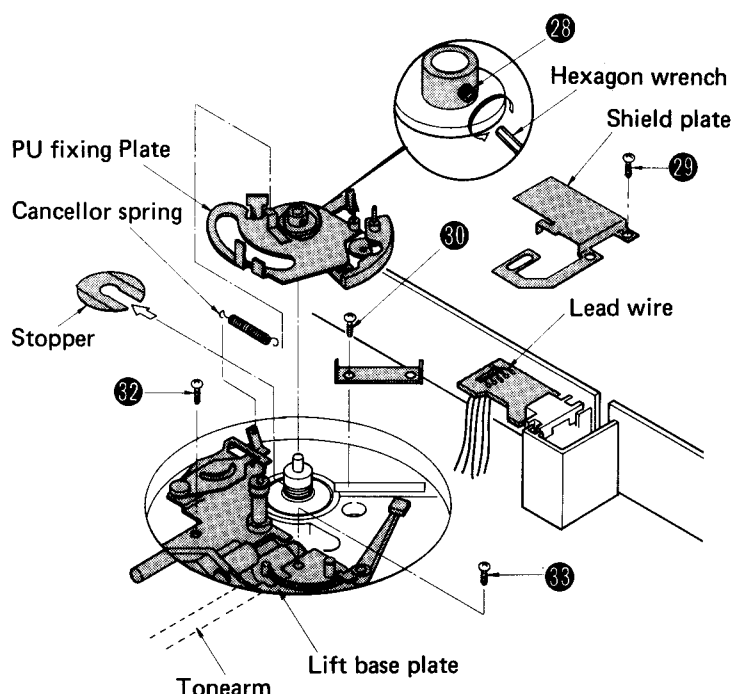

Fig. 5
2. Remove the canceller spring from the PU fixing plate, loosen the PU fixing plate set screw 28 with a hexagon wrench, then the plate is disassembled when lifted upward. (See Fig. 5)
3. Remove the shield plate fixing screw 29 and disconnect the soldered five lead wires from the tonearm. (See Fig. 5)
4. Disengage the scrw 30 of the lead wire fixing plate and remove the tonearm stopper, then the tonearm can be taken off. (See Fig. 5)
8. Remove the lift base plate setscrews 32 and 33. Then, the lift base plate can be removed. (See Fig. 5)